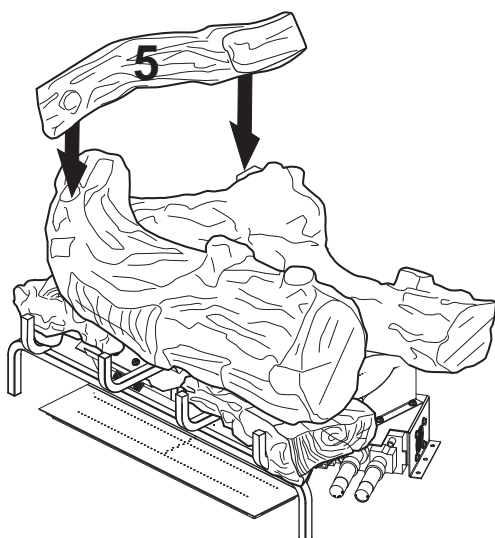

Figure 24 - Installing Log #5
5. Place top left log (#5) onto rear log (#1) and front log (#3). Match round peg on bottom of top left log (#5) with round hole in front log (#3) and square hole in log #5 with square peg on log #1 (see **Figure 24**).